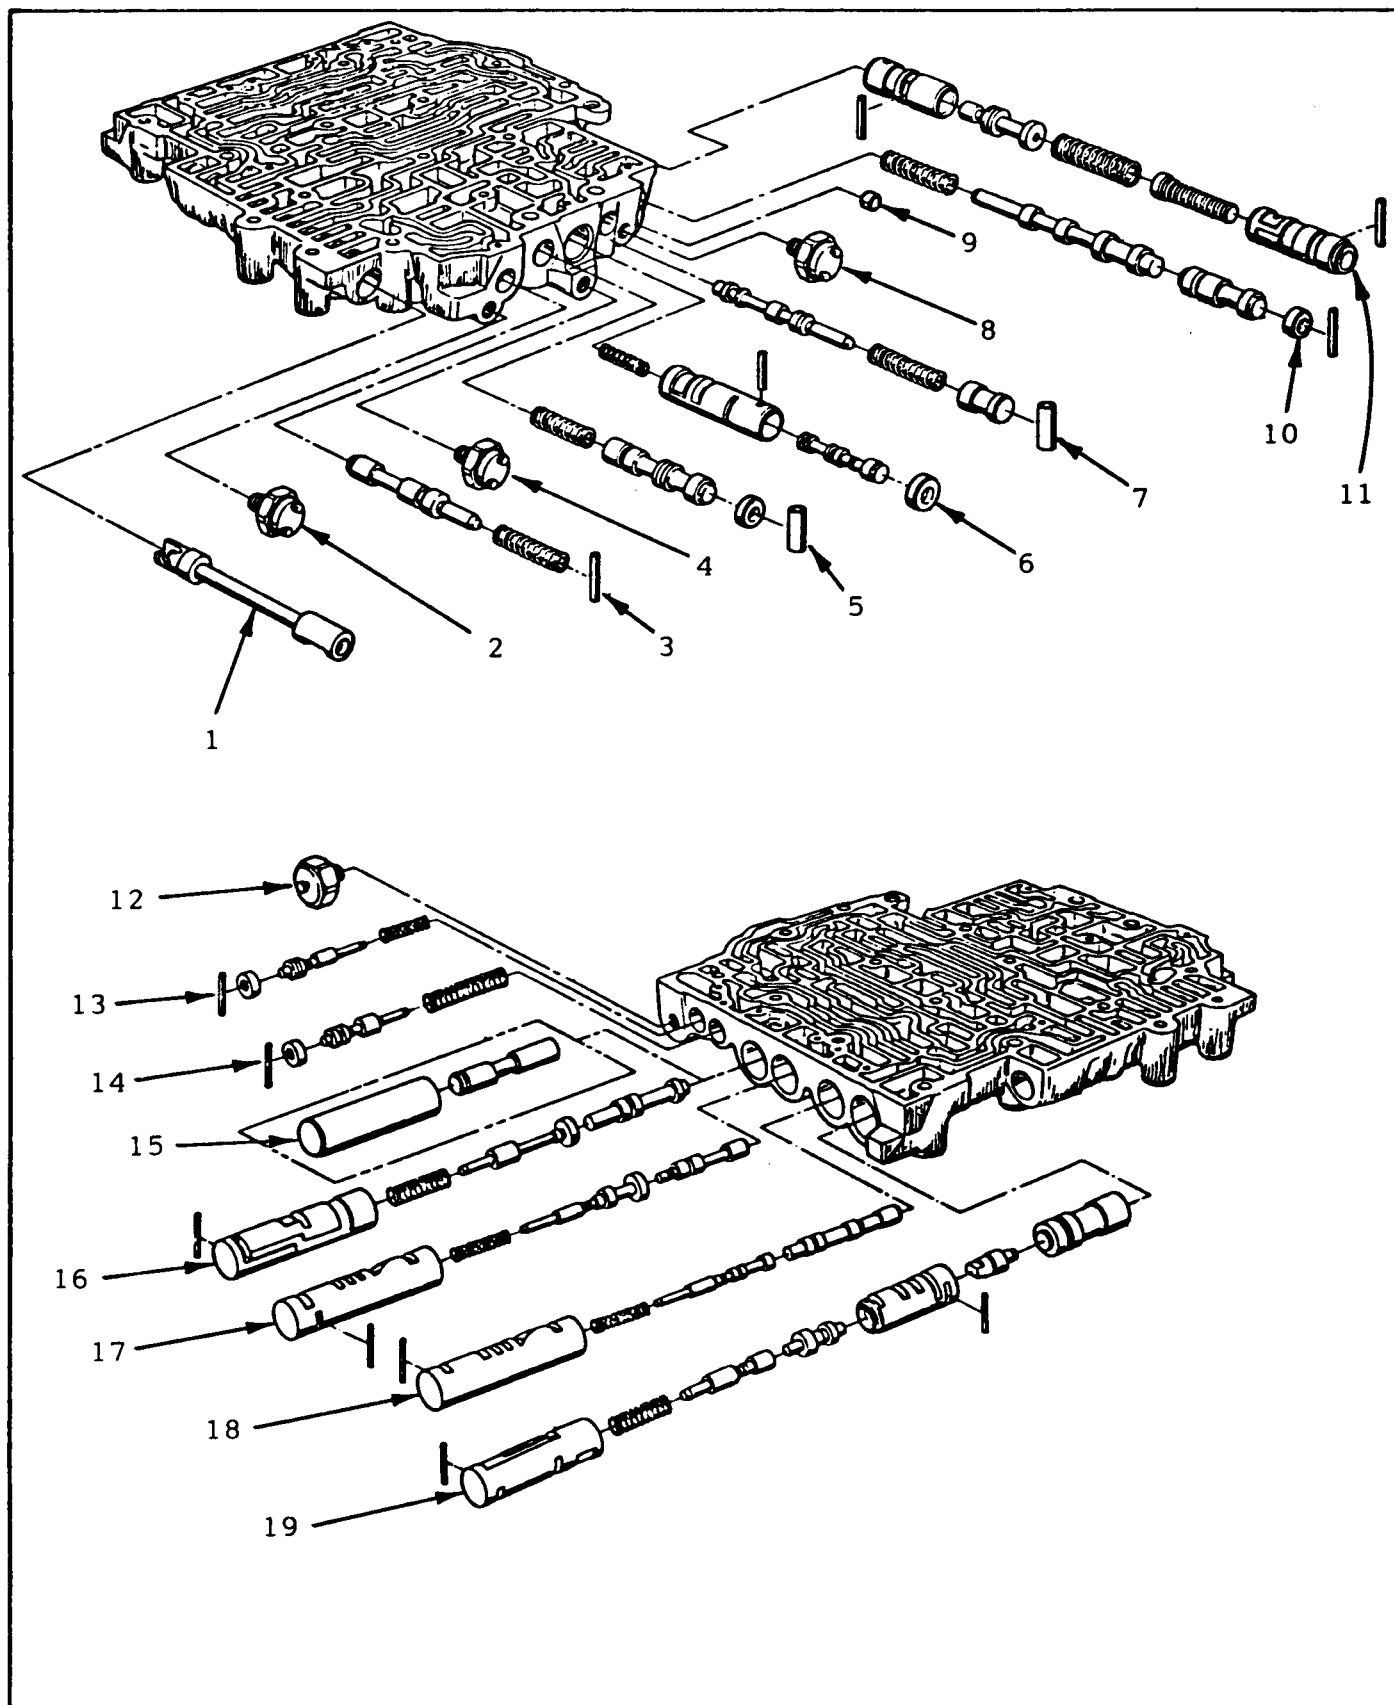

Figure 109
3. Position valve body as shown in Figure 109, and on a clean dry surface.
1. Assemble the valve body exactly as shown in Figures 109 and 110.